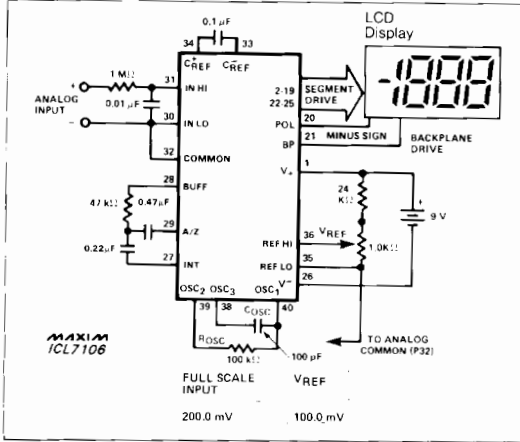
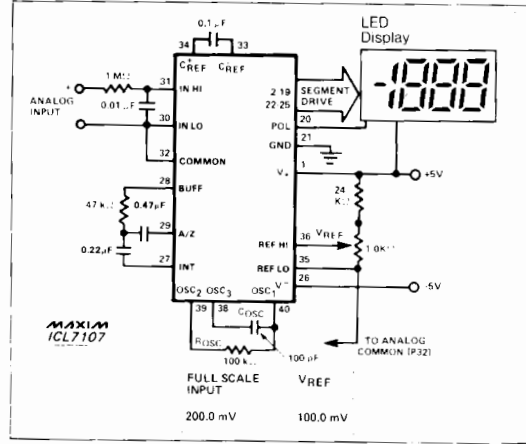

Figure 1. Maxim ICL7106 Typical Operating Circuit
Figure 2. Maxim ICL7107 Typical Operating Circuit
**Note 3:** Unless otherwise noted, specifications apply to both the 7106 and 7107 at TA = 25°C, fCLOCK = 48kHz. 7106 is tested in the circuit of Figure 1. 7107 is tested in the circuit of Figure 2.
( $V^+ = 9V$ ;  $T_A = 25^\circ C$ ;  $f_{CLOCK} = 48kHz$ ; test circuit - Figure 1; unless noted)
**Note 6:** Test condition is  $V_{IN}$  applied between pin IH-HI and IN-LO through a 1M $\Omega$  series resistor as shown in Figures 1 and 2.
**Note 10:** 1M $\Omega$  resistor is removed in Figures 1 and 2.